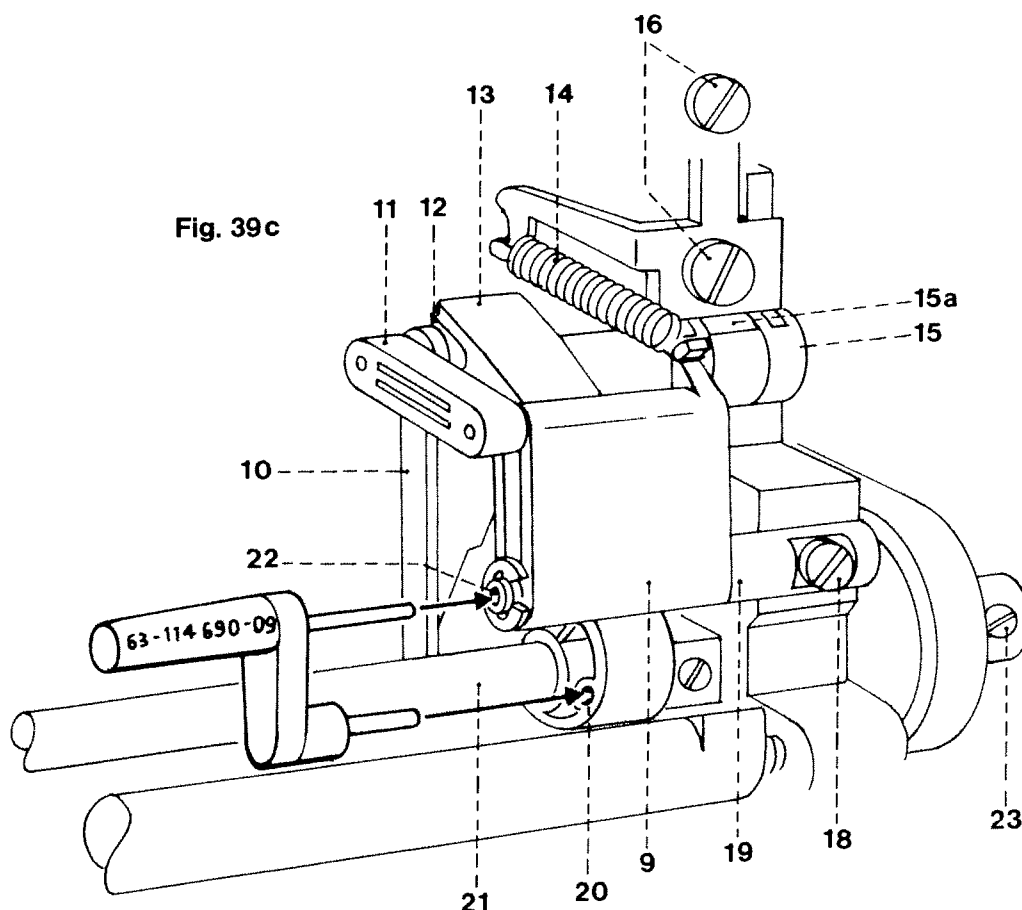

Fig. 39a
- Fit bobbin thread monitor 154 and fasten with screws 153 (Fig. 39a).